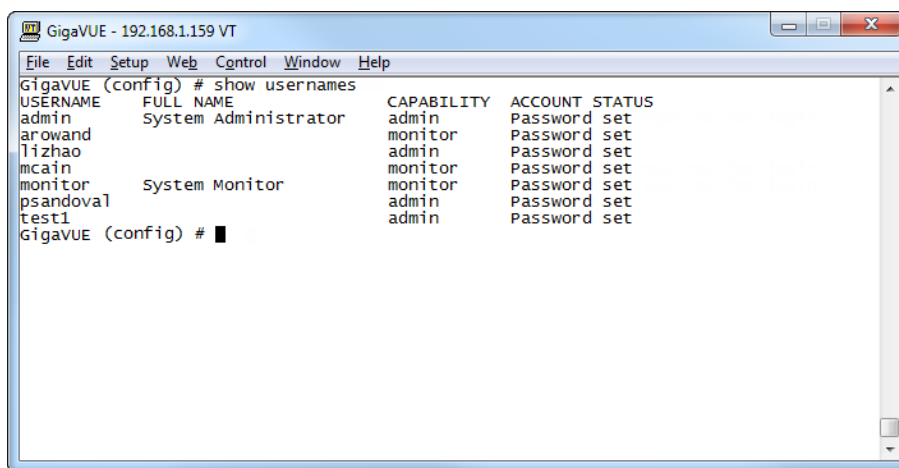

Figure 9 Reviewing the User List
2. Once you have configured these basic user accounts, use the **show usernames** command to review your settings. Figure 9 Reviewing the User List shows some sample **show usernames** output after several users have been added.